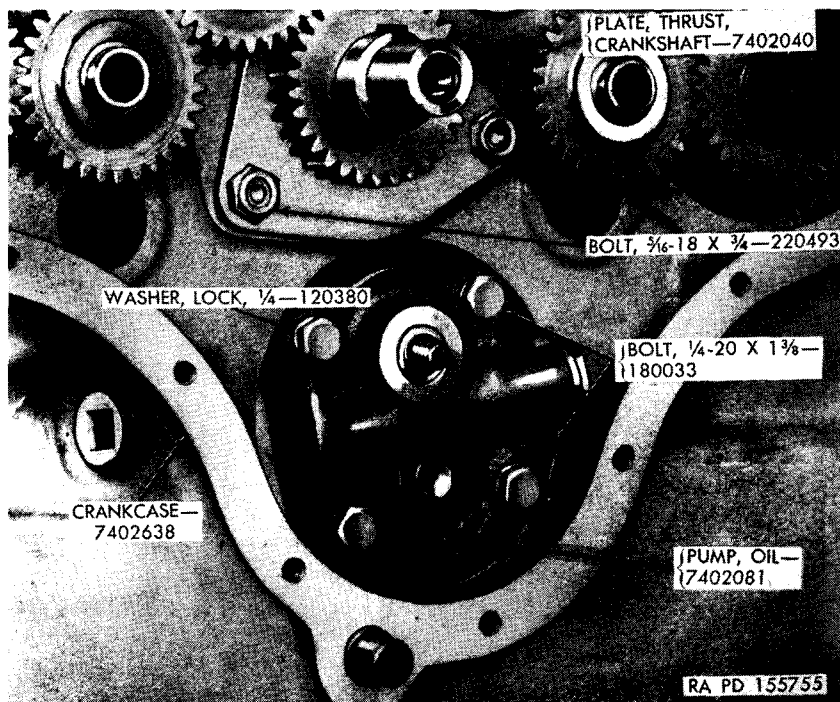

Figure 45. Oil pump.
- b. Remove four $\frac{1}{4}$ -20 x $1\frac{1}{2}$ bolts and lock washers holding oil pump body to crankcase (fig. 45).